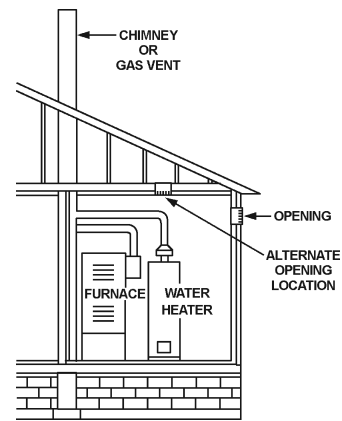

FIGURE 13A.
- Alternatively, a single permanent opening may be used when communicating directly with the outdoors, or with spaces that freely communicate with the outdoors. The opening shall have a minimum free area of 1 square inch per 3,000 BTU per hour (8.3 cm²/kW) of total input rating of all equipment in the enclosure. See Figure 13A.